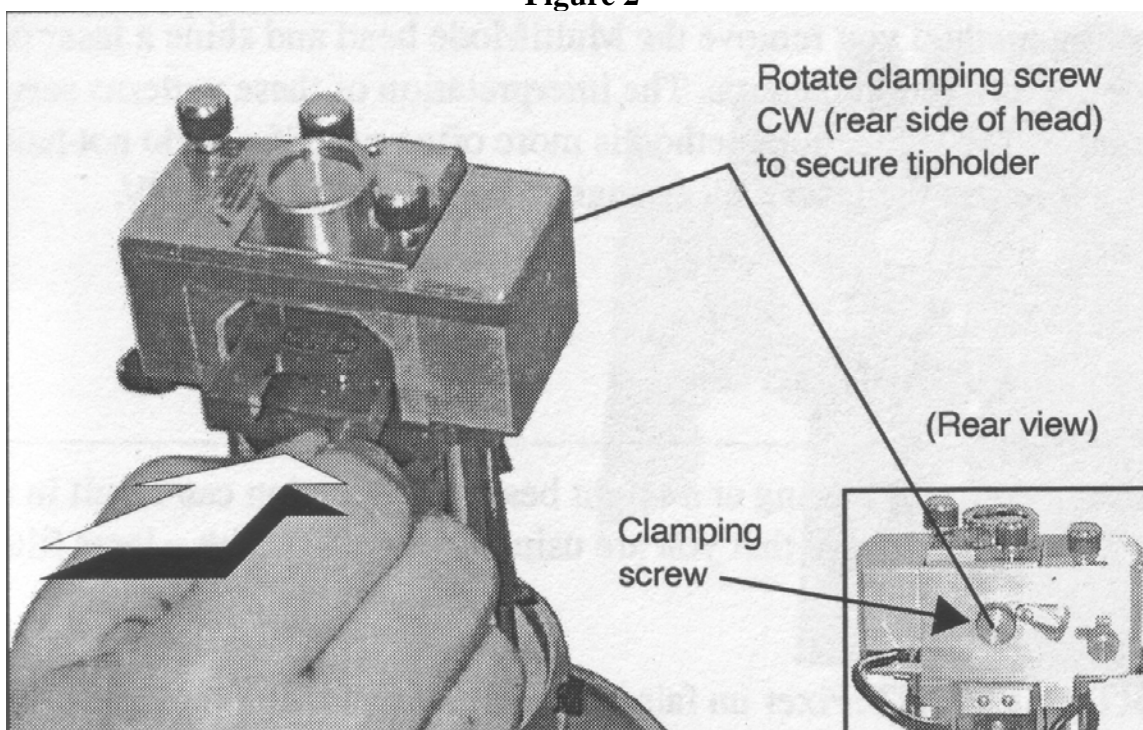

Figure 3
- Then introduce the tip holder in the device and screw it (see Figure 3)